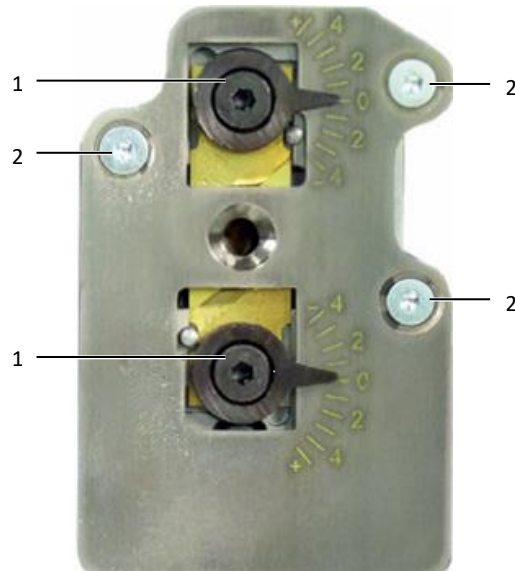

Fig. 30: Insulation stripping unit
- Remove both cams (fig. 30, item 1) (Allen key 2.5 mm).
- Loosen the fastening screws (fig. 30, item 2) (Allen key 2.0 mm) and remove the cover.